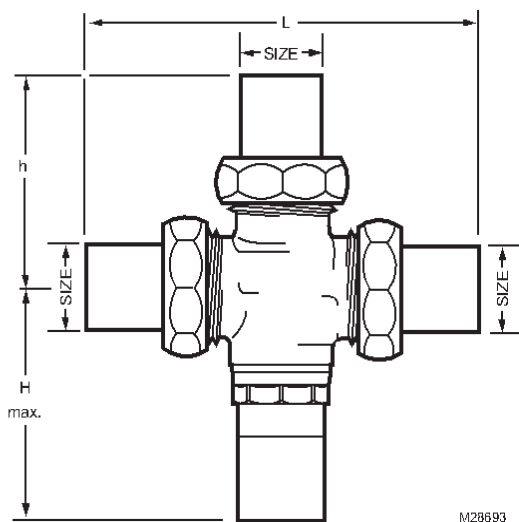

Fig. 2. V135A dimensions in in. (mm.).
**Dimensions:** See Fig. 2 and Table 2.